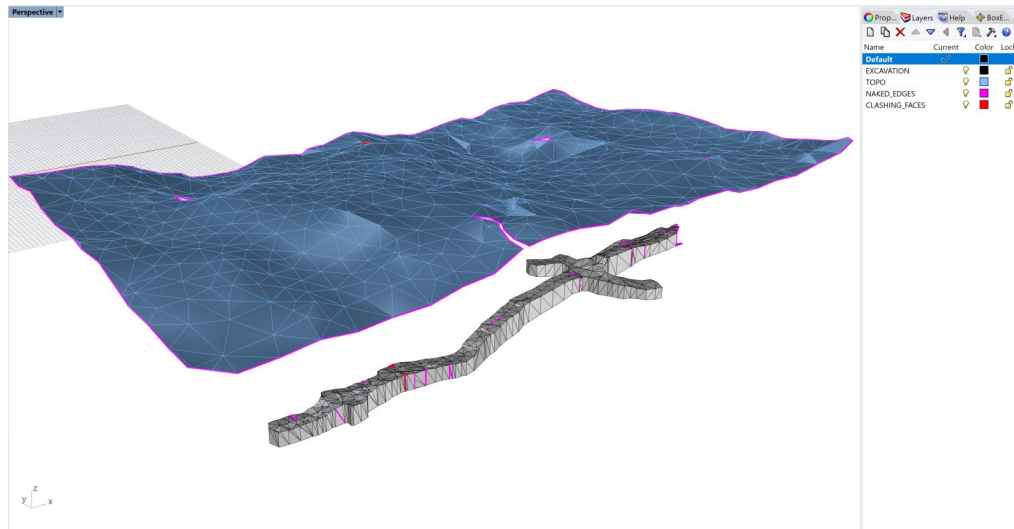

Figure 67: Displaying naked edges and clashing faces.
9. To check the meshes for naked edges (holes, cracks, disjointed faces) and clashing faces (non-conformal faces within a single mesh), type **_GHeal** and select *ShowErrors* (Figure 67). Two new layers will appear: “NAKED_EDGES” (pink curves) and “CLASHING_FACES” (red curves), which contain curves outlining corresponding issues. In this case, the layers contain many curves. After mesh repair operations, the number of issues (and corresponding curves) will decrease, which can be checked by calling **_GHeal → ShowErrors** again (the outlines of the issues will be updated). To